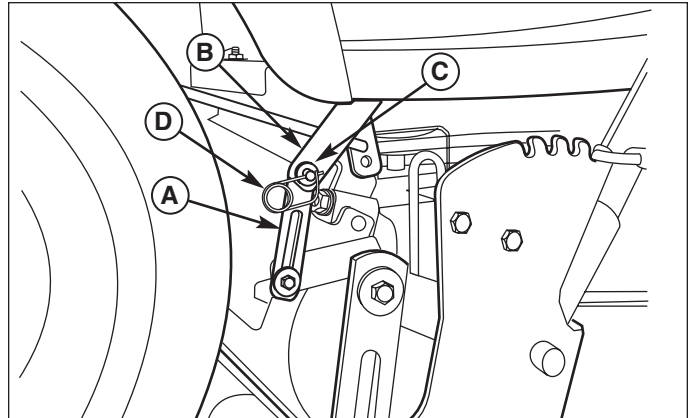

Figure 10. Lift Arms
4. Disconnect the mower lift arms (A, Figure 10) from the tractor lift arms (B) on both sides of the mower deck. Re-install washers (C) and safety clips (D).
5. See Figure 10. Connect the mower lift arms (A) to the tractor lift arms (B) using the flat washer (C) and safety clip (D).